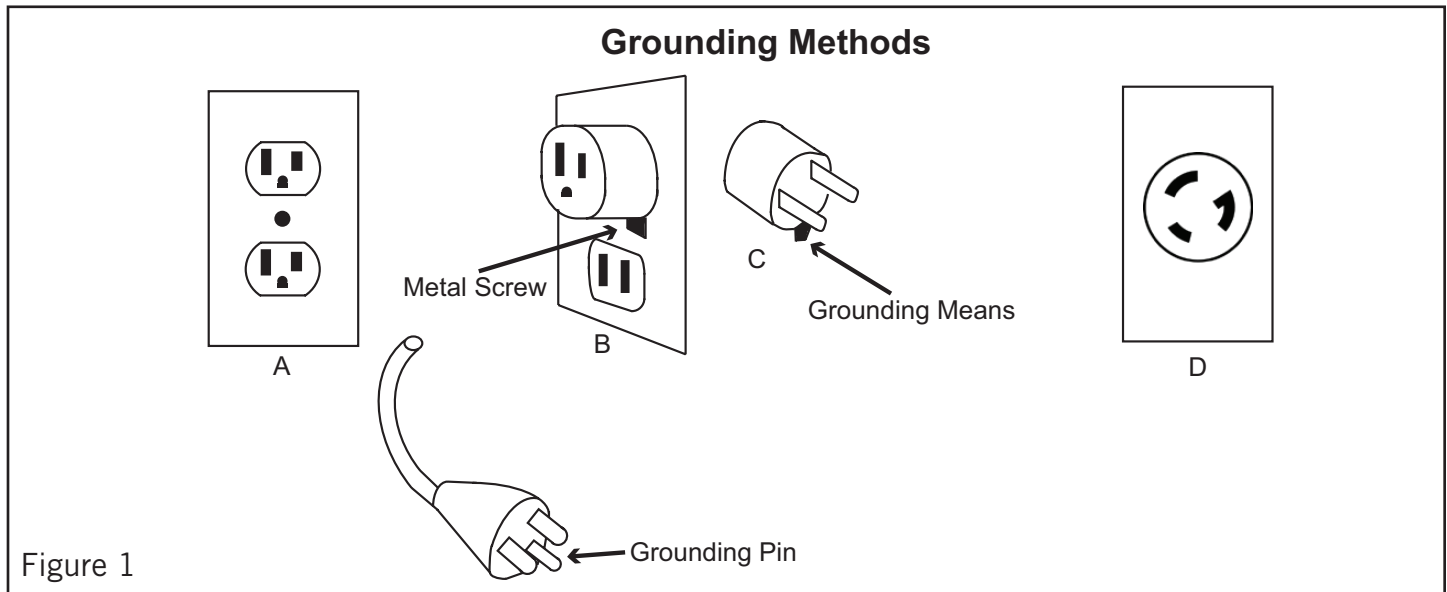

Figure 1
2. Connect the fan heater to the proper electrical power. See Grounding instructions (Page 6, Figure 1).
### **Grounding Instructions (see Figure 1)**